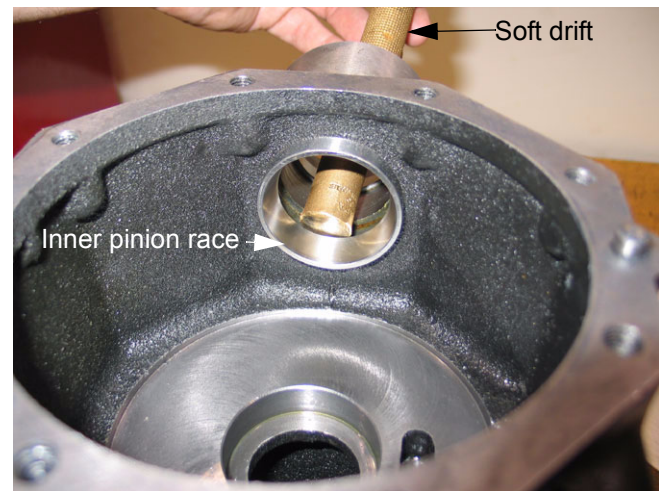

Figure 9.22
- 9.22. If the pinion bearings are suspect, drive the outer races from the pinion bore as well. Keep the races associated with the same bearings that originally ran in them. See Figure 9.22.